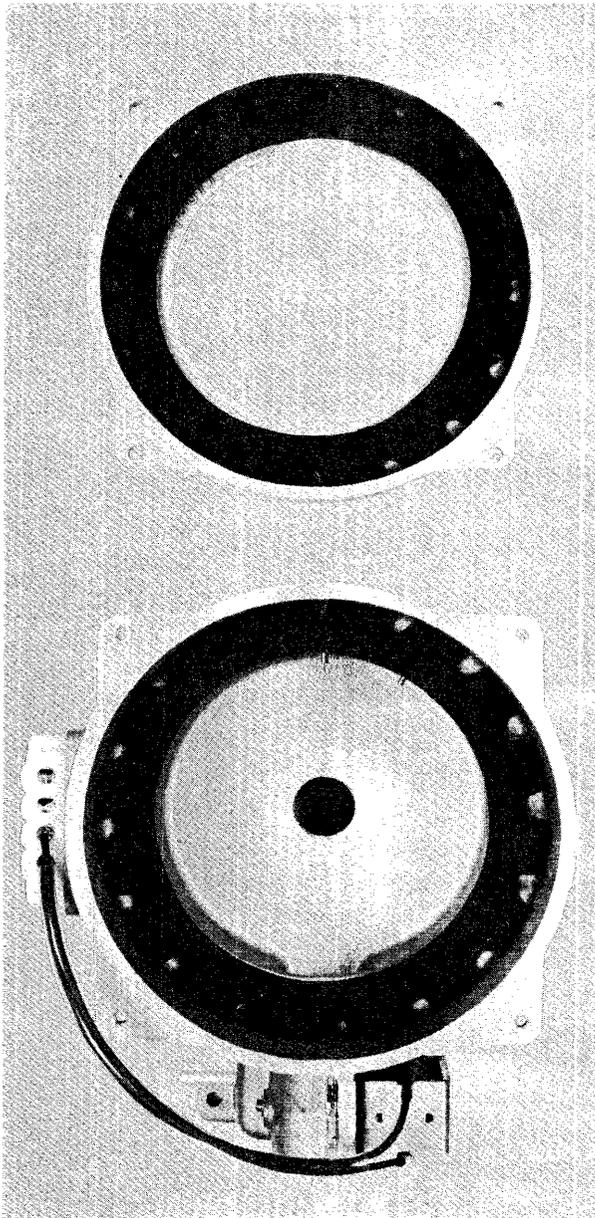

Figure 6-28
Step 6: Place the retainer upside down on a flat surface and position the rubber mounting pad so that it is centered in the retainer as shown in Fig. 6-28. Check to be certain that the other mounting pad is still centered in the main housing. If necessary, adjust its position so that it is centered as shown.